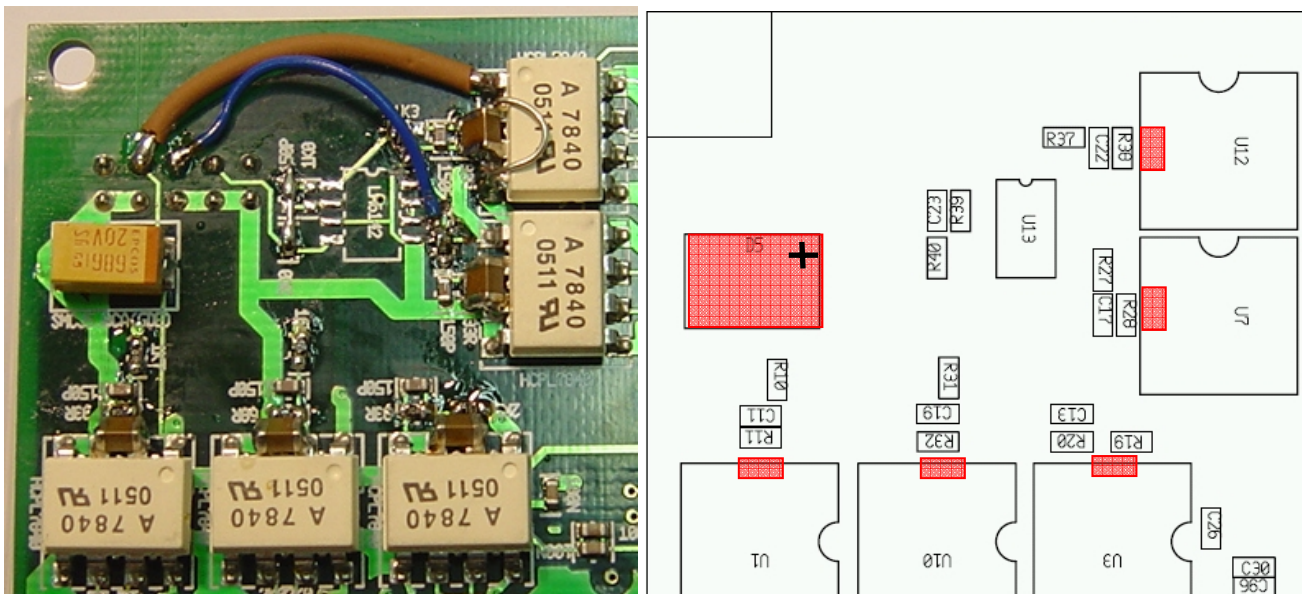

Fig.10. Ceramic capacitors on U1, U3, U7, U10, U12, and capacitor 68uF/20V in place of D5 transil.
- (k) Solder ceramic capacitors 10uF (size 1210) between pin2 and pin3 of all isolation amplifiers on bottom side of U1, U3, U7, U10, U12, to increase the nominal filtering capacitor values of C11, C13, C17, C19, C22, see Fig.10.
- (l) Solder tantalum capacitor 68uF/20V in the place of removed transil diode D5. Positive polarity has to be towards pin3 of J12 connector, see Fig.10.